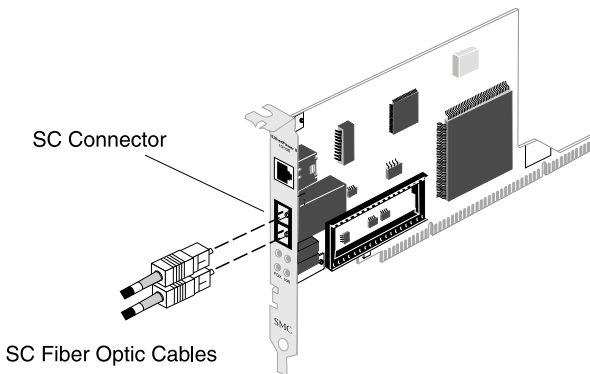

Figure 2-4. Connecting SC Fiber Cable
1. Connect one end of the cable to the card's SC connector and the other end of the cable to the fiber connector on the other device (see Figure 2-4).